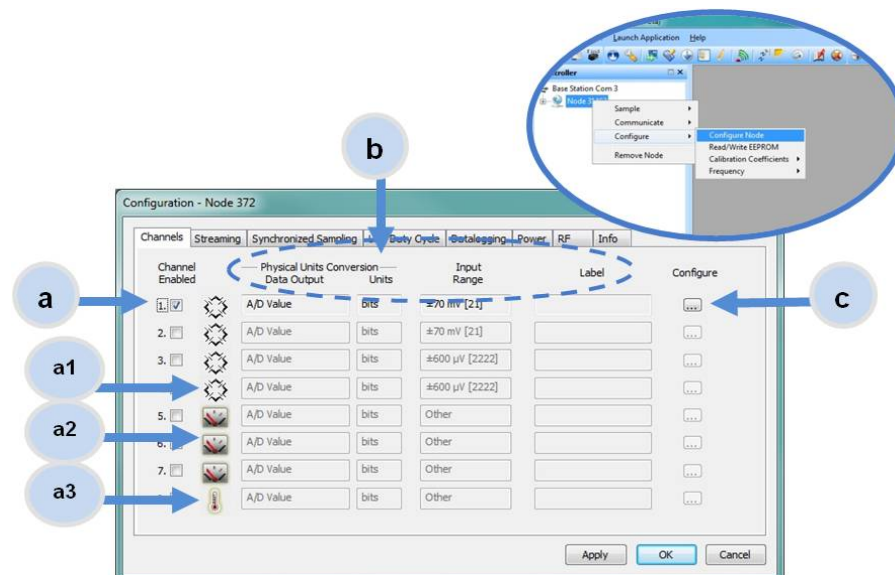

Figure 8 - Node Channels Menu
- a. **Channel Enabled:** indicates the channel number. The check box is used to enable the channel and select it for sampling. The icon next to the check box describes the channel type intrinsic to the node being used. In the following example (*Figure 8 - Node Channels Menu*): a1) analog differential channel icon, a2) analog single ended channel icon, and a3) temperature channel icon.
2. To enter the channel configuration menu, select the Configure button as shown in Figure 8 - Node Channels Menu. The channel configuration menu options change depending on the sensor type selected.